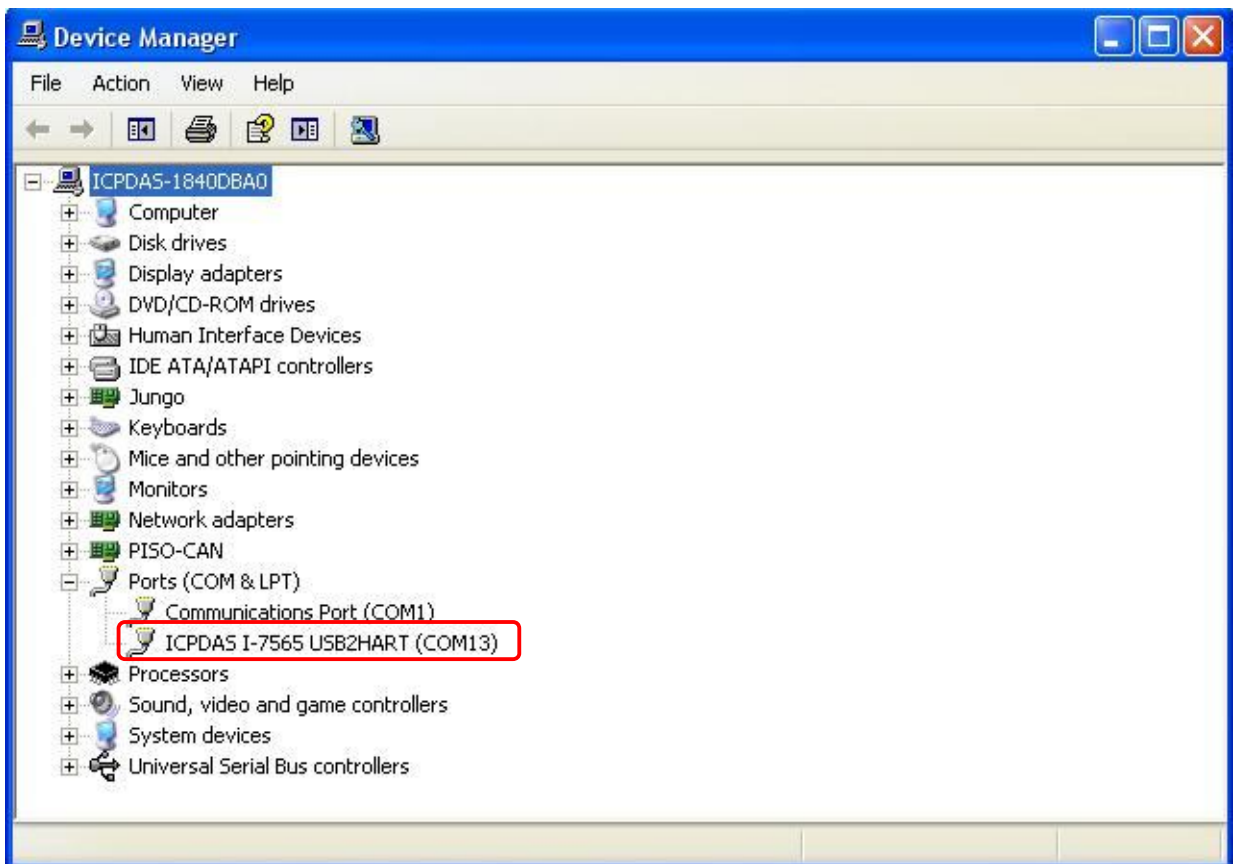
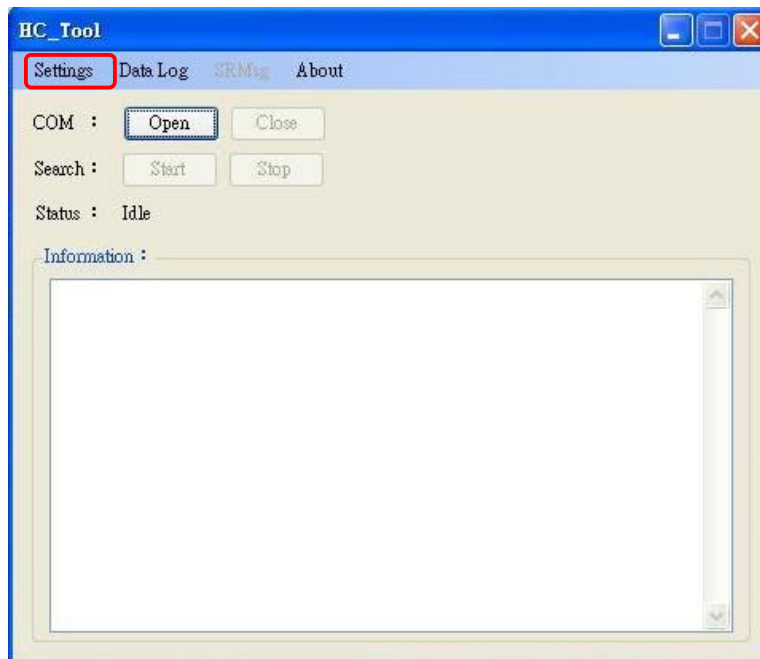

Figure 3-1: The Virtual COM Port Number
Figure 3-2: Open the “Settings” of menu
Step2: Run the “I-7567 Utility”, HC_Tool.exe, and configure the connection parameters (please check the virtual com port number Figure 3-1) and then click the “Settings” of menu like Figure 3-2.